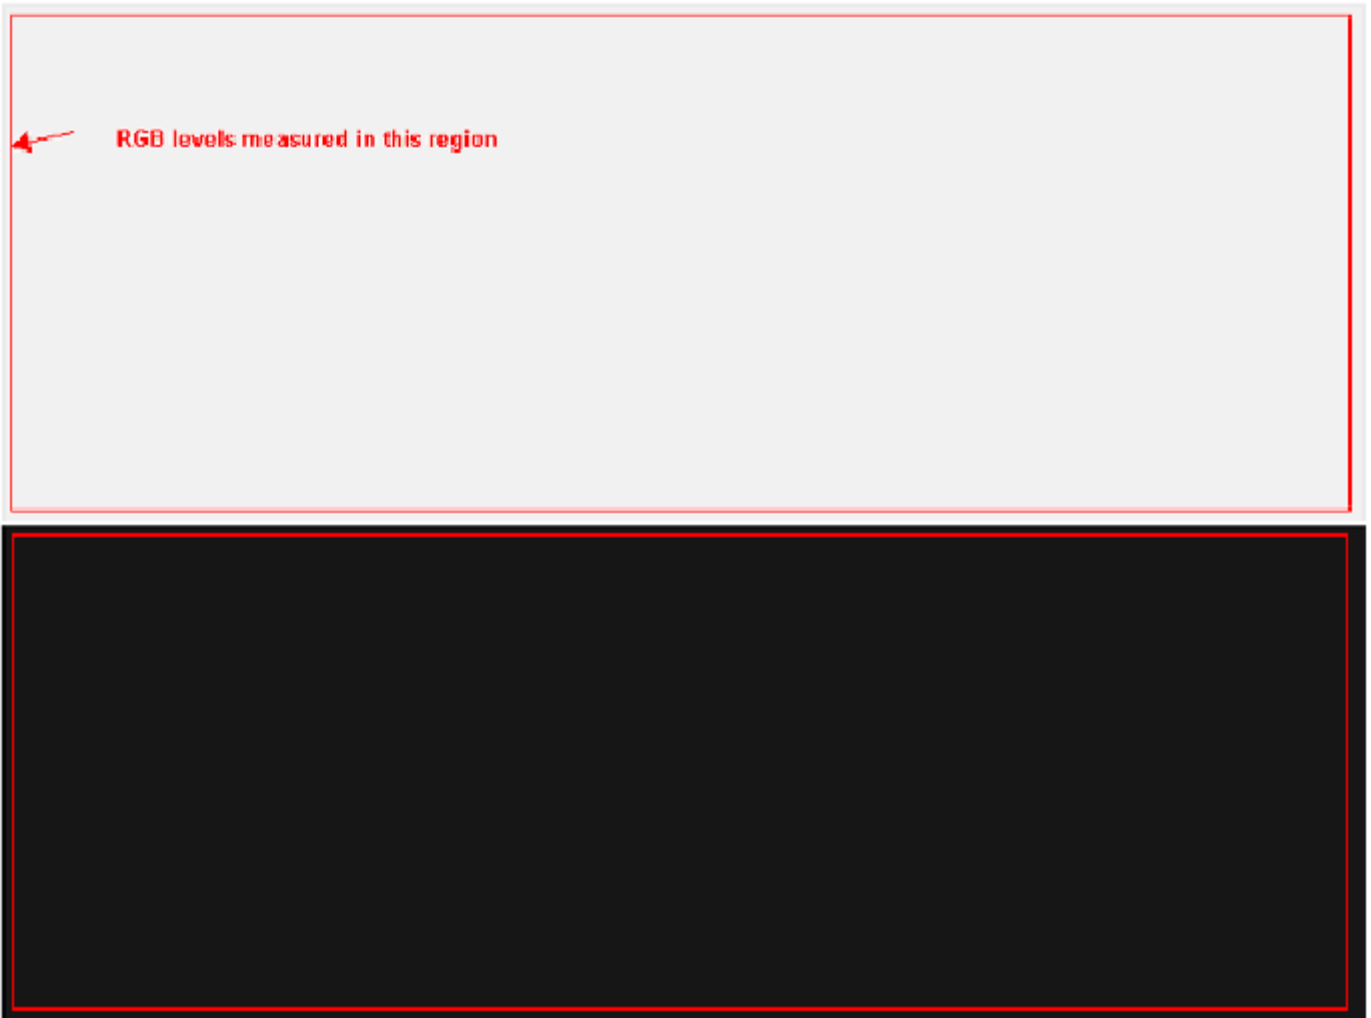

Figure1
4. Pattern: As Figure1 {A near white color (240,240,240) and a near black color(16,16,16), the area of white is 101/200, black is 99/200}